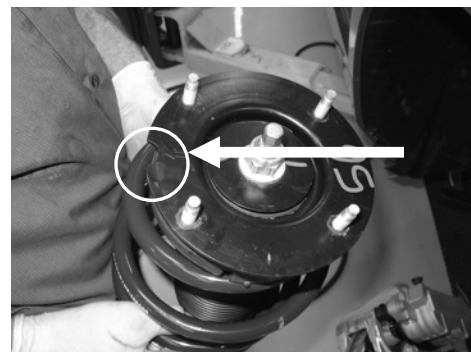

Figure 1
1. With notch facing outside of the vehicle, slide studs in top of strut into four upper mounting holes; be sure the brake line sits behind strut assembly before tightening the strut in place. (Figure 1)